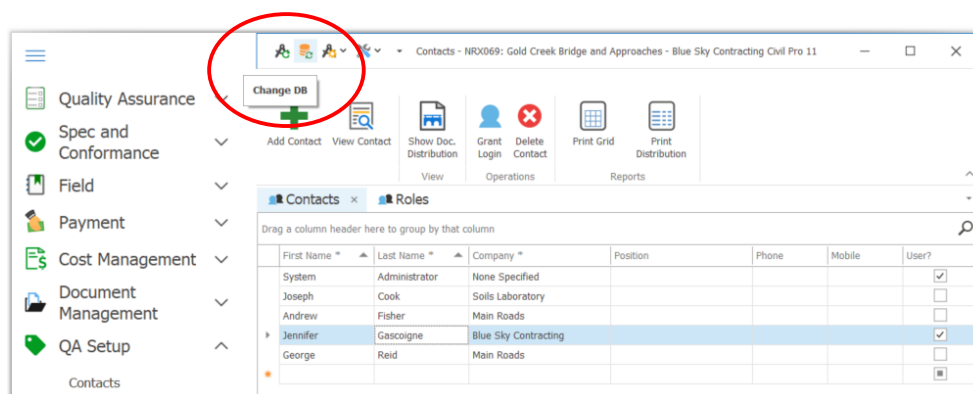

Figure 47 Accessing Change Databases from the project menu
1. Log off by using the *Change Database* option from the project menu as in Figure 47.